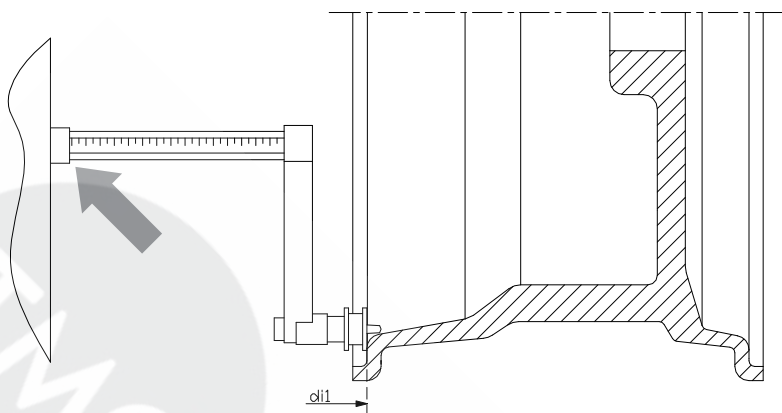

Figure F3.4 - Manual Acquisition of wheel distance in the ALS1 Program Type
2. If the selected program type is ALS1, extract the distance sensor and place it on the wheel as shown in Figure F3.4, otherwise proceed with step 4.
3. If the selected program type is ALS2, extract the distance sensor and place it on the plane chosen for the internal weight as shown in Figure F3.4;